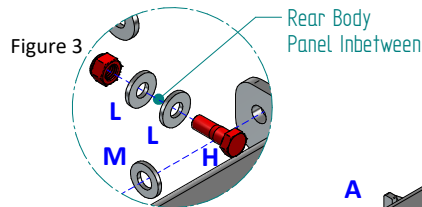

Figure 4
3. Loosely fix item **A** to items **B1** and **B2** to the correct position as shown in **Figure 4** using items **J** with Items **M**.